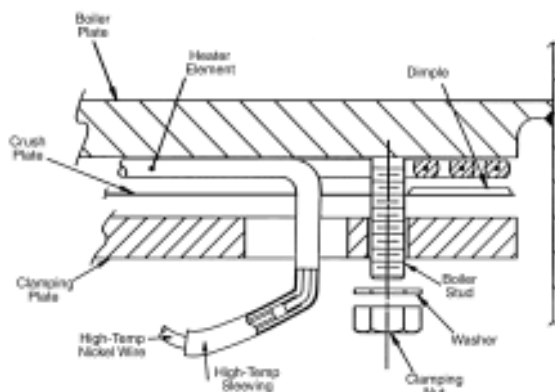

Figure 30 Heater Element Assembly
- 9 Replace the heater insulation (not shown in Figure 30) between the high temperature nickel wires and the clamping plate.